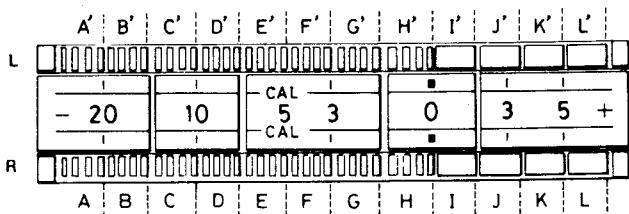

Fig. 12
Figure 12 shows input voltages (V_{IN}) of IC1, IC2 necessary for illuminating the indicators of FL meter.
b. Put out level meter's 0 dB segment (the segment of Hand H' part in Fig. 12) once by rotating SVR3 and SVR4, and thereafter, adjust them to a point where the above-mentioned segment begins to light up.
c. With an input obtained in step a above reduced down to -18 dB — which is equal to VTVM reading of 67 mV, put out level meter's -20 dB segment (the segment of A and A' part in Fig. 12) once by rotating SVR1 and SVR2, and thereafter, adjust them to a point where the -20 dB segment begins to light up. Besides, make sure that the above segment is sure to go out with the input down to -19 dB (60 mV in VTVM reading) and that the segment comes on again when the input reaches within -18 ± 0.5 dB (67 ± 3 mV in VTVM reading).